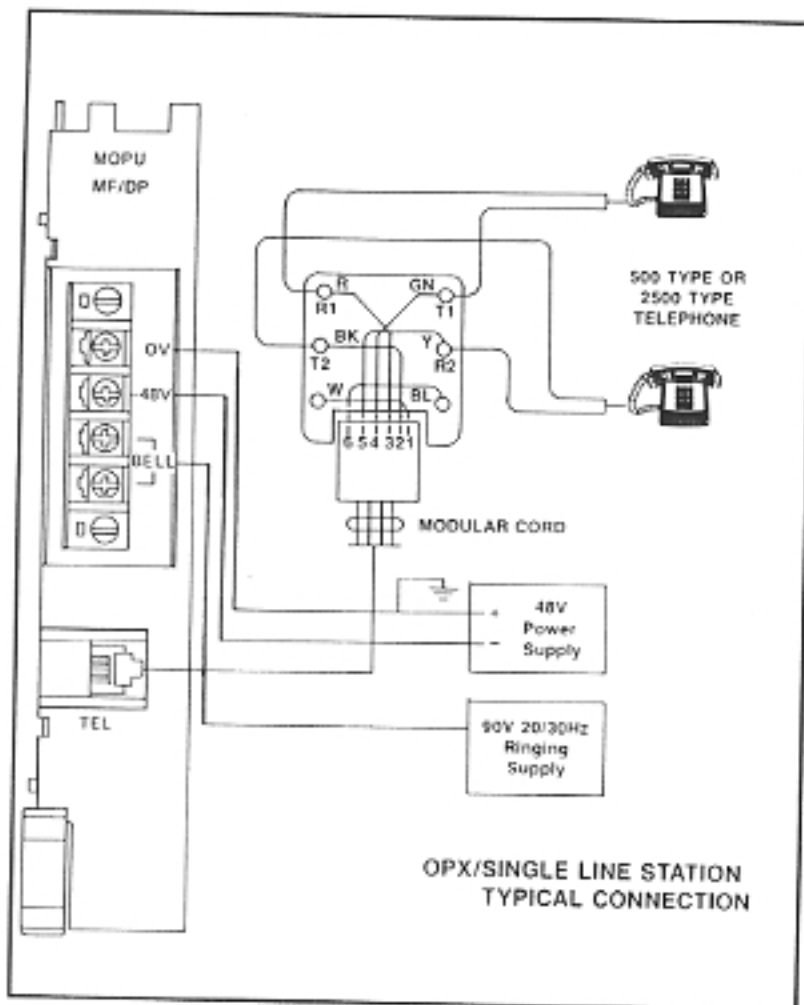

FIGURE 25—MOPU WIRING
07.41 Off premise extension/conventional single line telephone (OPX) connections are made via a 4-wire modular cord to the front of the MOPU PCB. One cord serves the two OPX connections. See Figure 25.